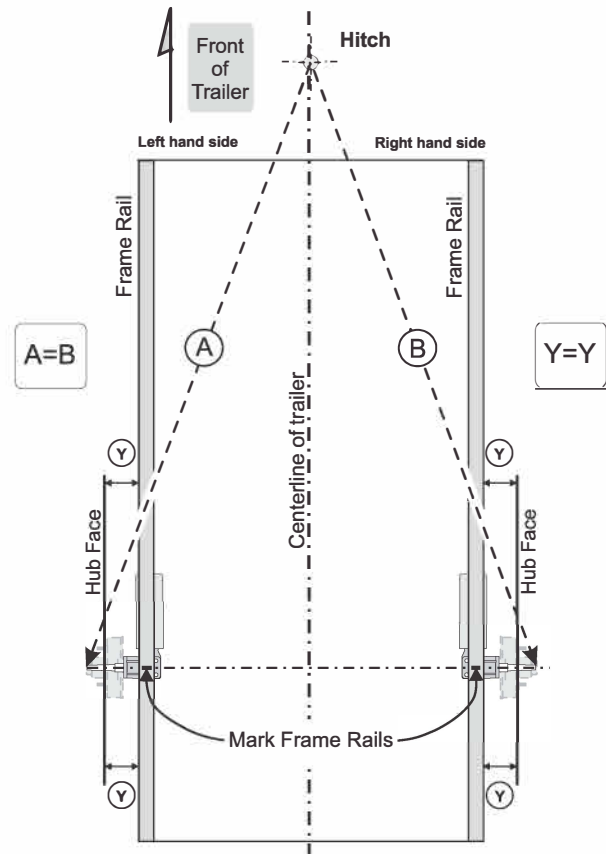

Fig. 2 Spindle Alignment (View from the top)
2. Make sure frame is perfectly square. Measure and compare the diagonal distances from one corner of frame to the opposite corner. Also measure and compare the distances from the hitch to each rear corner of frame. Ideally the measurements are identical (in each case the difference should be less than 1/8" (3 mm)). Mark frame rails where centerline of spindles (wheels) should cross frame (fig. 2)⁽²⁾.
3. Locate the left hand and right hand side hangers on frame rails, opposite to each other. Move hangers along frame until center of spindles line up with marks on the frame rails, viewing from top (fig. 2). Clamp hangers to frame. Measure and compare distances "A" and "B". Reposition hangers until the difference between "A" and "B" measurements is less than 1/8" (3 mm).